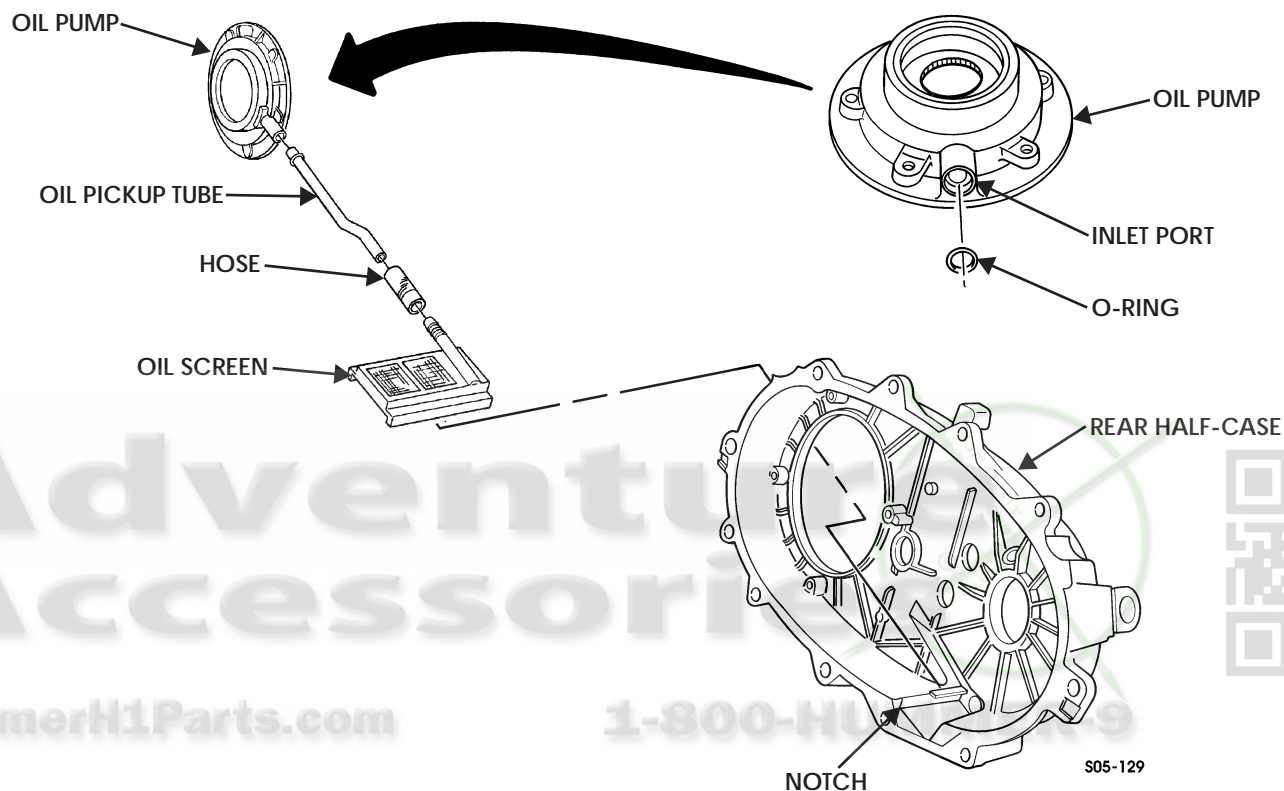

Figure 5-182: Oil Pump and Pickup
29. Install O-ring in oil pump inlet port (Figure 5-182).